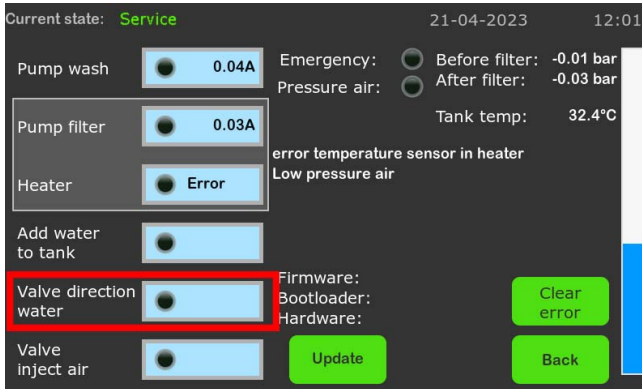

Figure 40
3. In the **"Service"** menu, press the **"Valve direction water"** button several times (see Fig. 40) and assess how the valve direction changes, as shown in Fig. 41. A properly functioning valve smoothly moves and always returns to its original position. If there are deviations in the movement (usually hanging in the middle position), cleaning is required.